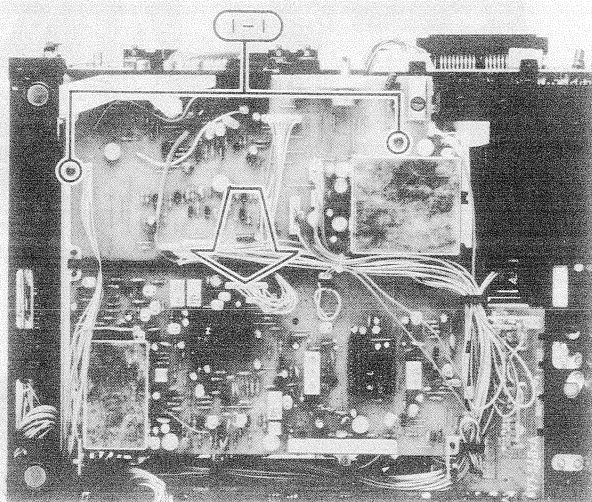

Fig. 10
1. Y/Chroma, Audio/Jack PC Board (Fig. 10)